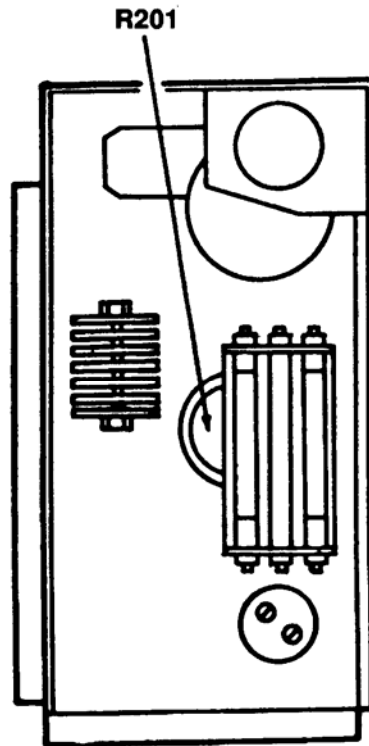
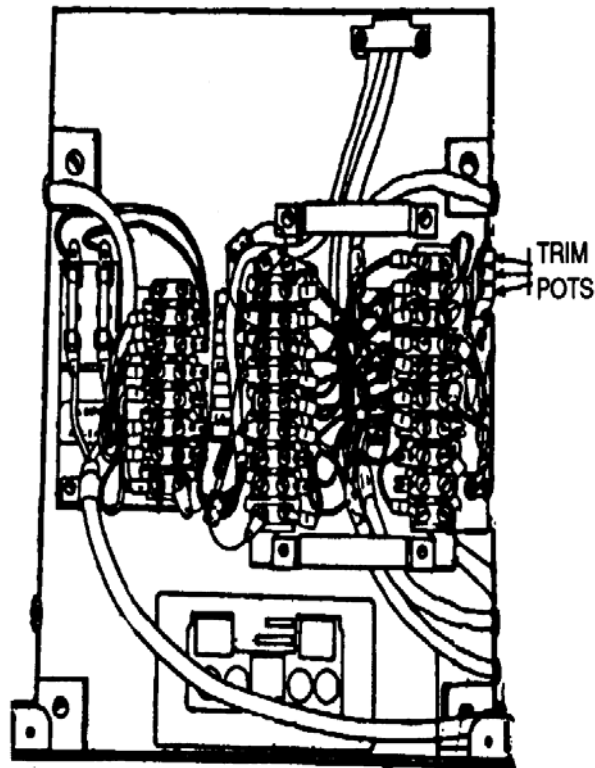

Figure 2. Weighing kit power supply - rear view.
Figure 3. Trim pot location.
- (1) Connect multimeter to gray (+) and violet (-) terminals of TI power supply switch.
- (2) Adjust R201 (fig. 2) for 24 V dc as indicated on multimeter.
- (3) Zero adjust TI cell under test in a no load condition.
- (4) Apply a known load to system, preferably 15,000 pounds.
- (5) Set TI **INITIAL LOAD** switch and adjust **WEIGHT** dial of indicator amplifier assembly to amount of load applied.
- (6) Adjust appropriate TRIM POT (span) (fig. 3) until indicator pointer of TI indicates a null. A trim pot is provided for each cell. (R)
- (3) Zero adjust TI in a no load condition.
- (4) Apply a known load to system, preferably 50,000 pounds.
- (5) Set TI **INITIAL LOAD** switch and **WEIGHT** dial of indicator to amount of load applied.
- (6) Adjust appropriate TRIM POT (span) (fig. 3) until indicator pointer of TI indicates a null. A trim pot is provided for each cell. These adjustments are located next to the terminal strip of the indicator amplifier assembly. (R)